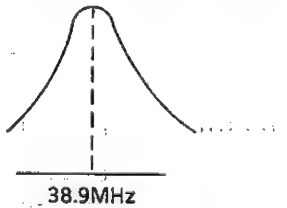

Figure 2-5
3. Connect the response lead to pin ⑪ of IC1901.
4. Adjust T1901 to align the peak as shown in Fig 2-5.